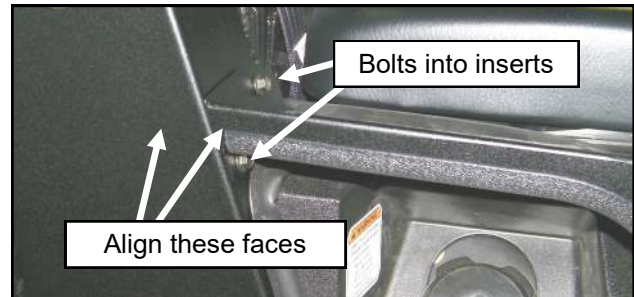

Fig. 15.1 Fuel filler cover
15.1 Per figure 15.1, place the fuel filler cover panel onto the right side B-pillar and insert (2) 1/4-20 bolts into the threaded inserts. Align the outer flange of the fuel filler cover to the side of the B-pillar and tighten the bolts.